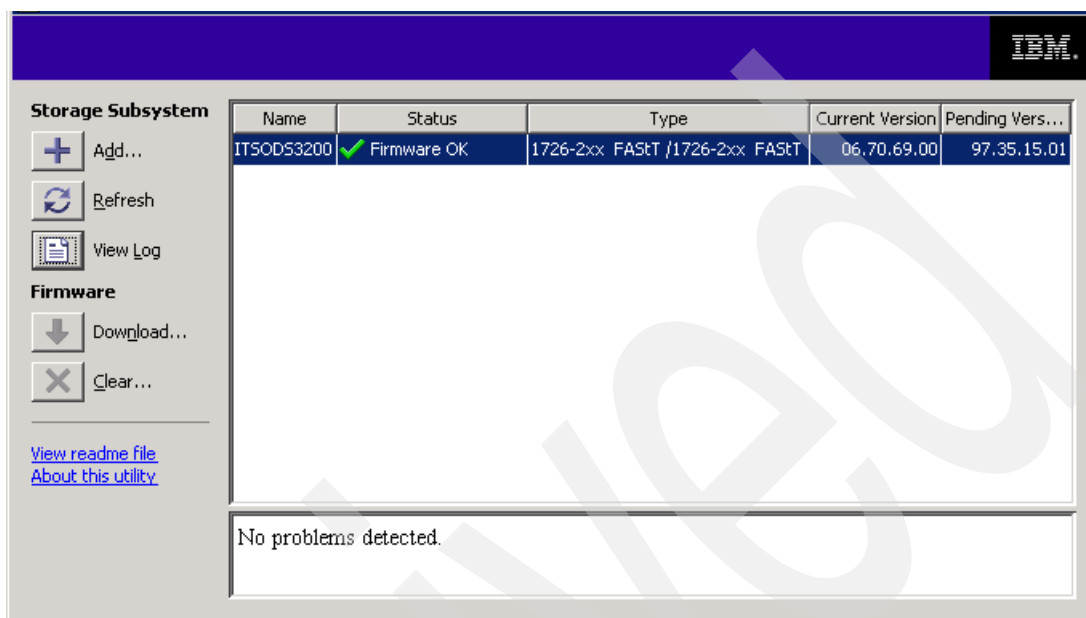

Figure 14-38 Firmware upgraded
- Observe the progress during the file transfer and activation. It can take a long time (25 to 30 minutes), but you can monitor the process in View Log. Once finished, the utility indicates the result of the operation. If the transfer and activation were successful, the window shown in Figure 14-38 appears.